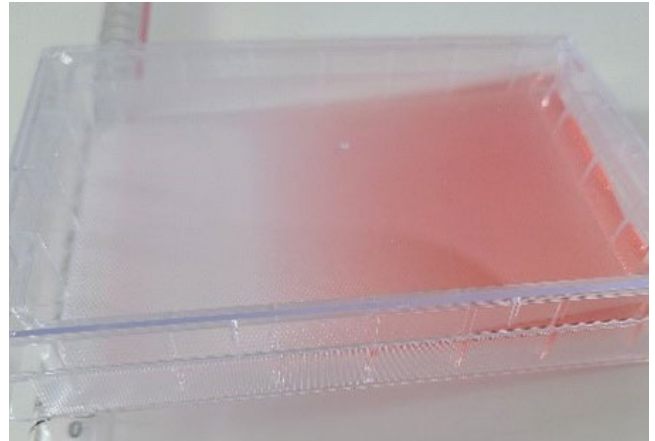

Figure 3. Recommended lift position to enable full liquid removal. Example shown using a 25 mL serological pipet.
2. The Elplasia 12K plate can be kept flat, or to achieve the recommended three-to-four-degree angle, slightly lift the short side of the Elplasia 12K plate opposite of the media exchange ports (0.25 in./6.35 mm) or place an item such as a 50 mL centrifuge tube cap or a serological pipet underneath to achieve the desired lift (as shown in Figure 3).